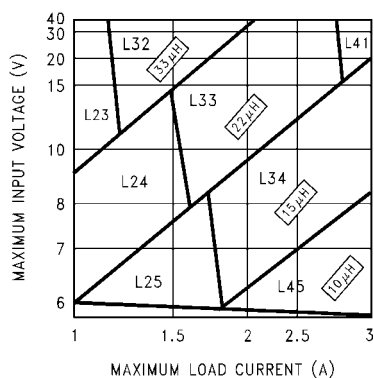
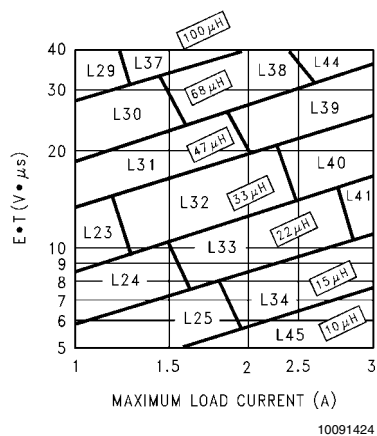

FIGURE 3. LM2676-3.3
FIGURE 6. LM2676-ADJ
Step 3: Determine the inductor required by using one of the four nomographs, *Figure 3* through *Figure 6*. Table 1 provides a specific manufacturer and part number for the inductor.
Step 5: Determine an input capacitor from Table 4 for fixed output voltage applications. Use Table 2 to find the specific capacitor type. For adjustable output circuits select a capacitor from Table 2 with a sufficient working voltage (WV) rating greater than $V_{in\ max}$, and an rms current rating greater than one-half the maximum load current (2 or more capacitors in parallel may be required).
Step 3: Use the nomograph for the 3.3V device, *Figure 3*. The intersection of the 16V horizontal line ($V_{in\ max}$) and the 2.5A vertical line ($I_{load\ max}$) indicates that L33, a 22 μ H inductor, is required.
Step 3: To use the nomograph for the adjustable device, *Figure 6*, requires a calculation of the inductor Volt•microsecond constant ($E \cdot T$ expressed in V• μ s) from the following formula:
Using *Figure 6*, the intersection of 27V• μ s horizontally and the 2A vertical line ($I_{load\ max}$) indicates that L38, a 68 μ H inductor, should be used.
Important Note: When using the adjustable device in low voltage applications (less than 3V output), if the nomograph, Figure 6, selects an inductance of 22 μ H or less, Table 6 does not provide an output capacitor solution. With these conditions the number of output capacitors required for stable operation becomes impractical. It is recommended to use either a 33 μ H or 47 μ H inductor and the output capacitors from Table 6.